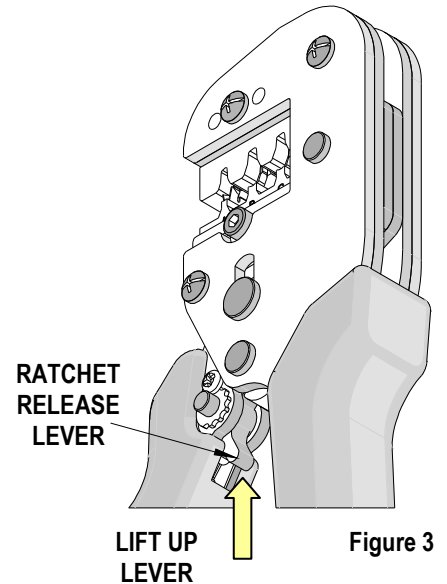

Figure 3
- While holding the wire in place, slowly close the handles of the tool. If excessive resistance is felt, there may be a jam. If this occurs, stop closing the tool and release the anti-backup ratchet by lifting up the lever near the top of the moving handle. See Figure 3.
If the tool ever becomes jammed in a partially closed position, **DO NOT** force the handles open or closed. The tool will open by lifting the ratchet release lever. See Figure 3.